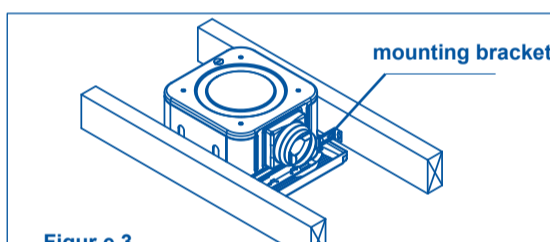

Figure 3
1. Slide adjustable mounting brackets into bracket channels on housing (Figure 3).